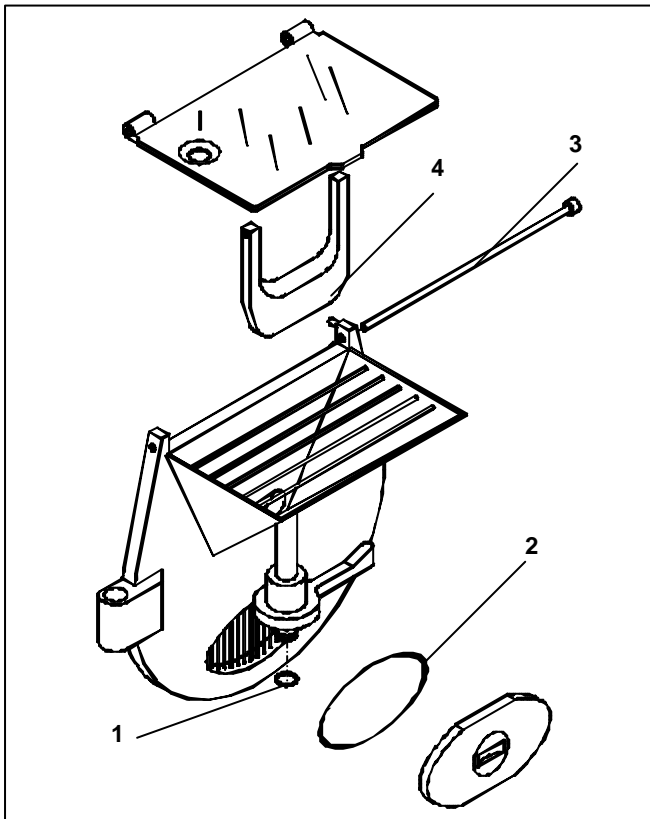

Figure 15
- Lift the ice cream gate and remove OR (Ref. 1 - Fig. 15) from sliding rod of ice cream gate and withdraw it which will also release the lever.
- To perform cleaning, also remove the ice cream gate OR (Ref. 2 - Fig. 15).
- Remove the horizontal hinge pin (Ref. 3 - Fig. 15) then remove the cover.
- The cover is provided with a small bulkhead (Ref.4 - Fig.15), which prevents ice cream from going up into the fill chute which must be disassembled to be cleaned.